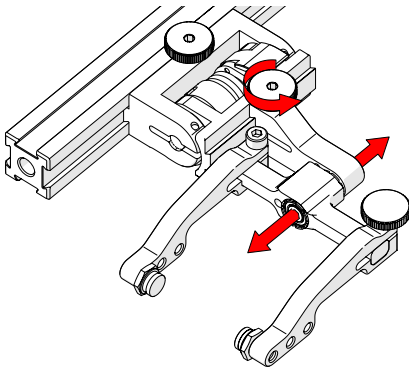

Fig. 148 - Adjust swing arm
3. Use the swing arm knob to position the swing arm (Fig. 148).